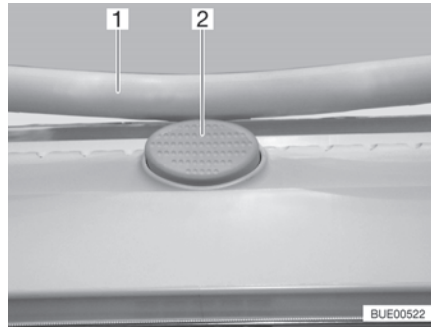

Fig. 19 Safety knob (Heki skylight)
- Press the safety knob (Fig. 19,2) and pull the bar (Fig. 19,1) down with both hands.
- Push the bar upwards with both hands until it is above the safety knob (Fig. 19,2).